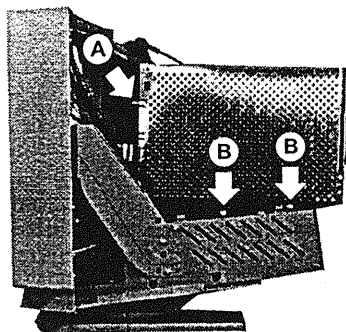

Figure 2-2 Remove the Shield (right side)
1. Disconnect the ground wire from the shield. Refer to the figure 2-2 (A).
2. Remove the two screws from the shield. Refer to the figure 2-2 (B).